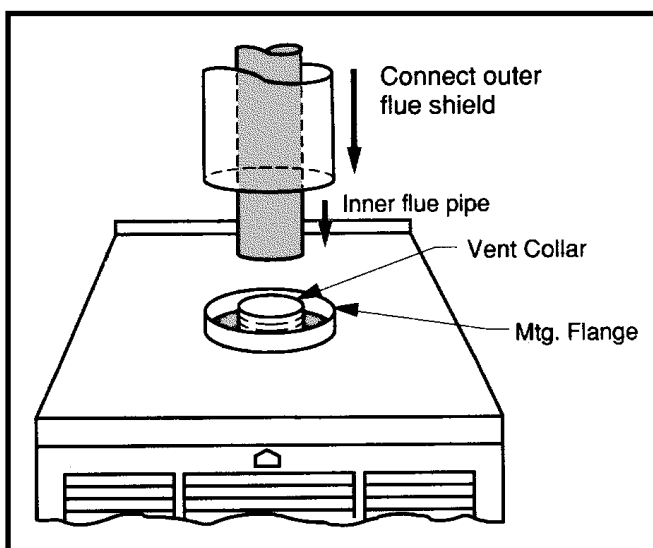

Figure 22. Combustion Air Pipe Connection
3. Connect flue pipe to flue collar of furnace. See Figure 22 (page 13).
4. Connect combustion air pipe to furnace collar with sheet metal screw. See Figure 22.